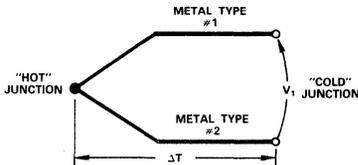

Figure 2. Typical Thermocouple
A thermocouple is a device that measures temperature by converting thermal energy to electrical energy. In order for this conversion process to take place, two phenomena must occur: (1) Two dissimilar metals must be bound together at one end to form the "HOT" or measuring junction with the free end attached to the instrument constituting the "COLD" or reference junction (shown in Figure 2) and (2) the "HOT" and "COLD" junction must be maintained at different temperatures (ΔT). The magnitude of voltage (V_1) developed at the "COLD" junction is directly proportional to temperature differential developed between the two junctions.